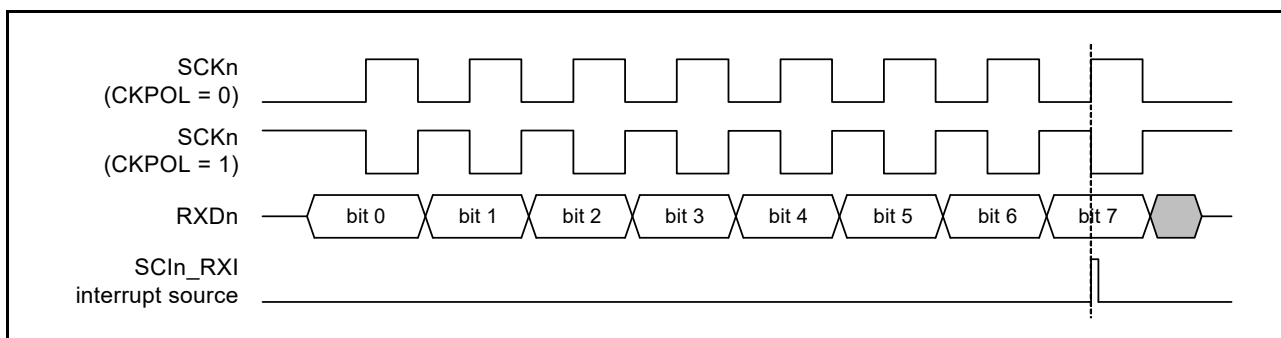

Figure 27.79 Timing of SCIn_RXI interrupt in simple SPI mode with clock delay
(1) Master mode
- For the clock delay setting (SPMR.CKPH bit is 1), the receive data full interrupt (SCIn_RXI) is generated before the final clock edge on the SCKn pin, as indicated in Figure 27.79. If the TE and RE bits in the SCR register become 0 before the final edge of the clock signal on the SCKn pin, the SCKn pin is placed in the high-impedance state, so the width of the last clock pulse of the transfer clock is shortened. Additionally, an SCIn_RXI interrupt might lead to the input signal on the SSn pin of a connected slave going to the high level before the final edge of the clock signal on the SCKn pin, leading to incorrect operation of the slave.